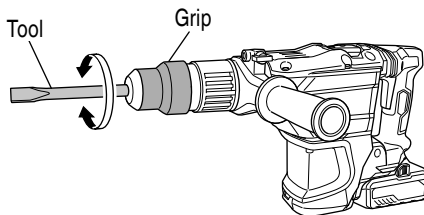

Fig. 25
- (b) Turn the Grip or the Tool as illustrated in Fig. 25 and fix the tool to the desired working direction.